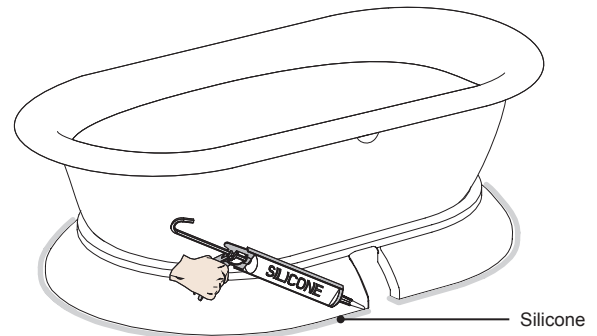

Figure 32. Pedestal Placement
- 5 Apply a bead of silicone (commercially available) around the edge of the pedestal base (Figure 32). Follow manufacturer's recommended drying time before proceeding.